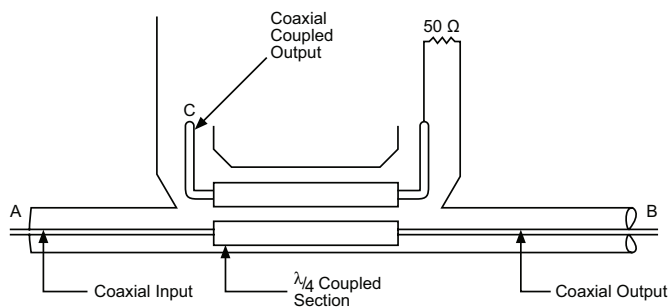
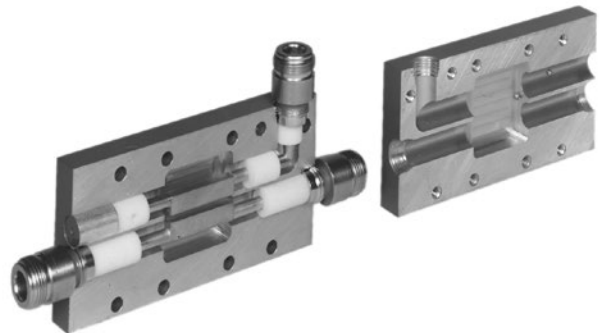

Figure 1. Diagram of a typical directional coupler
Figure 2. Internal view of a typical coaxial coupler
The basic construction of a coupled-line directional coupler can be seen in Figure 1, which illustrates a typical coaxial-line, microwave directional coupler such as might be used for microwave applications. It consists of two parallel striplines coupled over a length of approximately one-quarter wavelength. The mainline input (A) and output (B) coaxial lines are connected to one stripline; the other stripline is terminated in Z_0 at one end, and is connected to the coupled output port through a coaxial line (C). The two sections, referred to respectively as the main and auxiliary lines, are separated from each other except for the coupling area, through which energy is unidirectionally coupled from the main line to the auxiliary line. An internal view of a typical Narda-MITEQ coaxial coupler is shown in Figure 2.